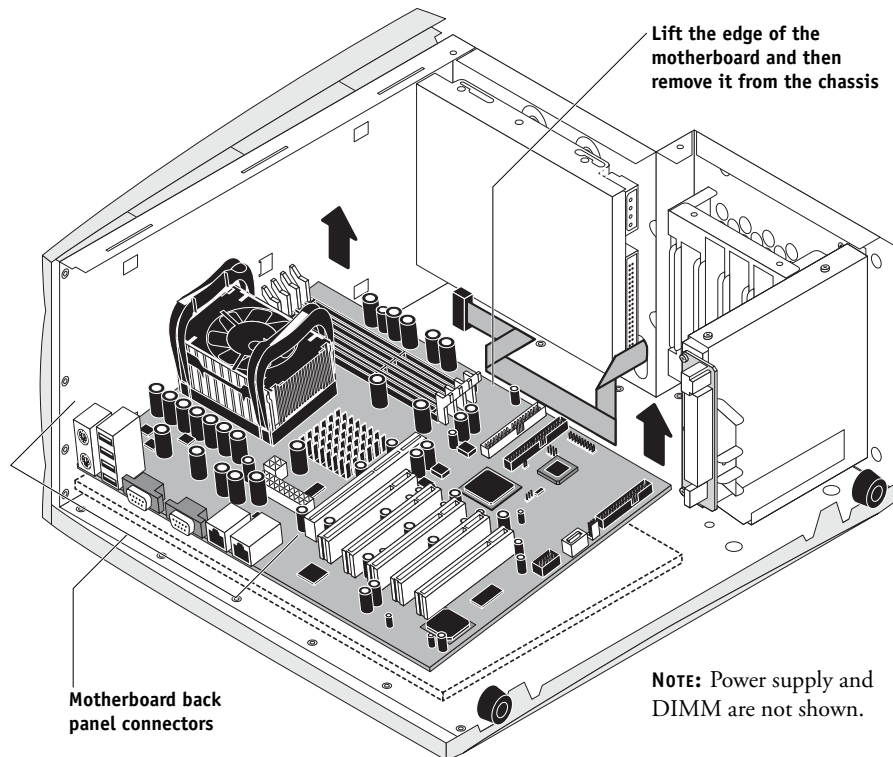

FIGURE 4-17 Removing the motherboard
3. Lift the edge of the motherboard opposite the back panel connectors to remove the motherboard from the chassis (see Figure 4-17 on page 4-24).
1. Angle the motherboard so the back panel connectors on the motherboard fit into the cutouts in the back of the chassis (see Figure 4-17 on page 4-24).
2. Align the mounting holes on the motherboard with the standoffs located in the base of the chassis (see Figure 4-17 on page 4-24) and then gently push the motherboard down to secure it to the chassis.